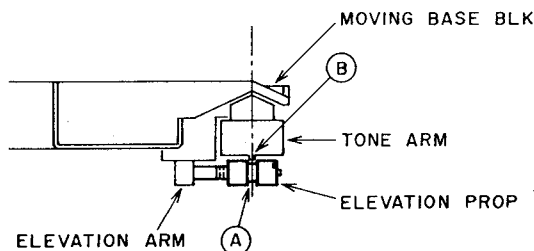

Fig. 4-1
- 2) Hold the Tone arm with the Moving Base Block and separate the Elevation Prop from the Tonearm. Then, bring the Elevation prop close to the Tonearm, and adjust the Elevation Prop close to the Tonearm, and adjust the Elevation Prop with a flat type screwdriver to the place where the position of the notch (A) on the Elevation Prop coincides with the projection part (B) on the Tonearm as shown Fig. 4-1.